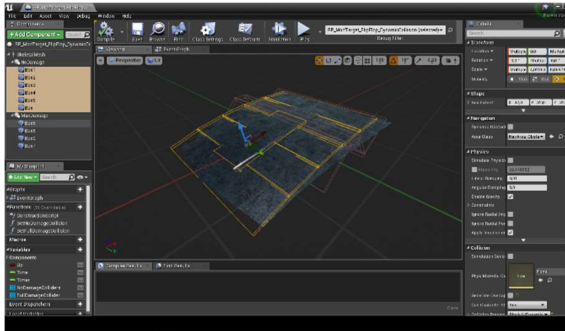

Figure 14
- Position colliders that physics objects can interact with when the object has no damage (figure 14)